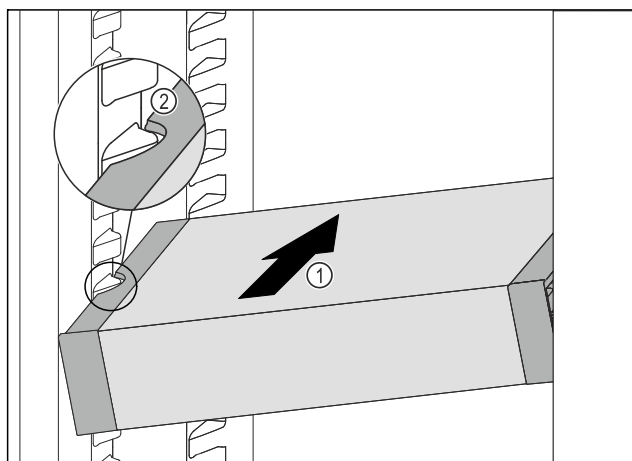

Fig. 51
- Insert the VarioSafe into the refrigerator compartment at an angle Fig. 51 (1) until the recesses in the side Fig. 51 (2) of the VarioSafe are at the level of the support rib in the refrigerator compartment.